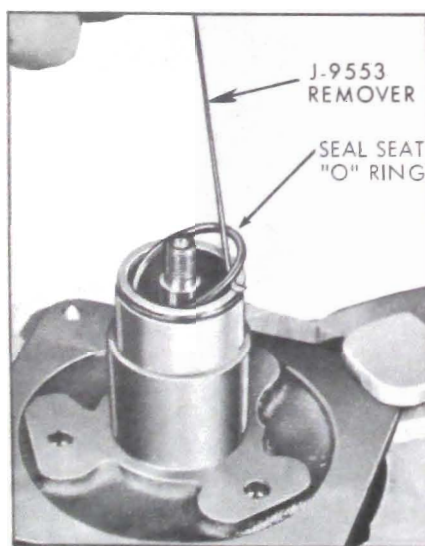

Figure 11-110—Removing Shaft Seal Seat "O"-Ring
5. Remove "O" ring from interior of front head casting bore, using J-9553 remover. See Figure 11-110.